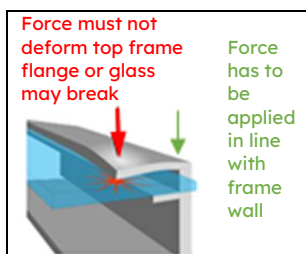

Figure 1a: Clamp Force Locations
- 2) **Clamps:** Mount the module with the opposite clamps on the longer and/or shorter sides of the module. The clips allowed location should be according to Appendix. Installers should ensure the clamps are of sufficient strength to allow for the maximum design pressure of the module. Clamps are not provided by Maxeon. Clamps must apply force collinear with the 'wall' of the module frame and not only to the top flange. Clamps shall not apply excessive force to the top frame, warp the top flange or contact the glass-these practices void the module warranty and risk glass breakage. **Figure 1a** illustrates locations for top frame clamp force. When clamping to the module frame, torque should never exceed 132 in-lbs (15 Nm) to reduce chances of frame deformation and/or glass breakage. If the clamp manufacturer recommends a specific torque value which is lower than 132 in-lbs (15 Nm), the installer should use the clamp manufacturer's torque value. If the clamp manufacturer recommends a specific torque value which is higher than 132 in-lbs (15 Nm), the installer should contact the clamp manufacturer for acceptance of the 132 in-lbs (15 Nm) maximum torque value or to find alternative clamps. A calibrated torque wrench must be used. Mounting systems should be evaluated for compatibility before installing, especially when the system is not using Clamps or clip.